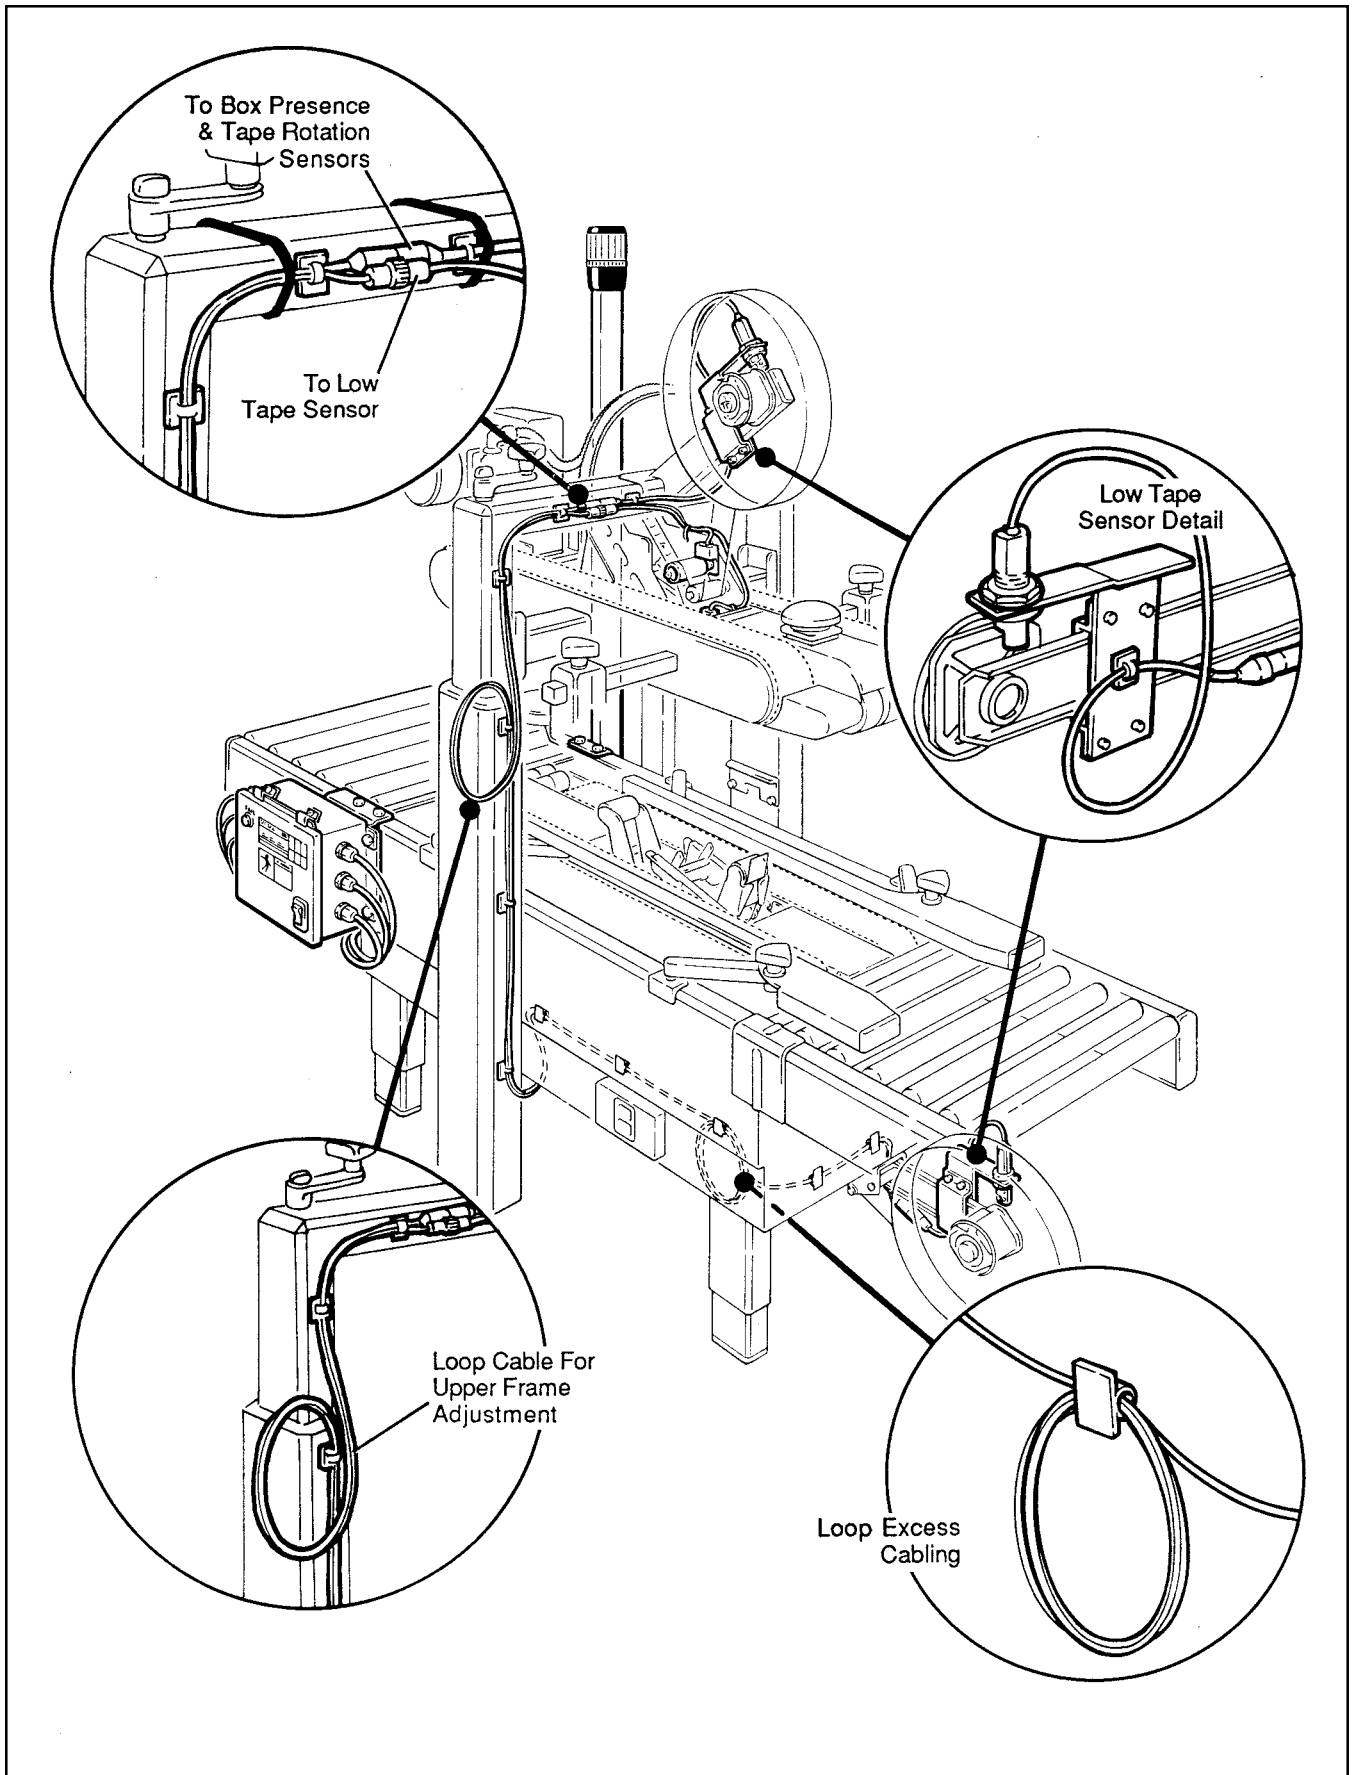

Figure 3-2 – Cable Tie-Downs
6. Attach cables to case sealer with wire ties keeping cables away from moving parts of case sealer. See Figure 3-2 for suggestions on cable ties.